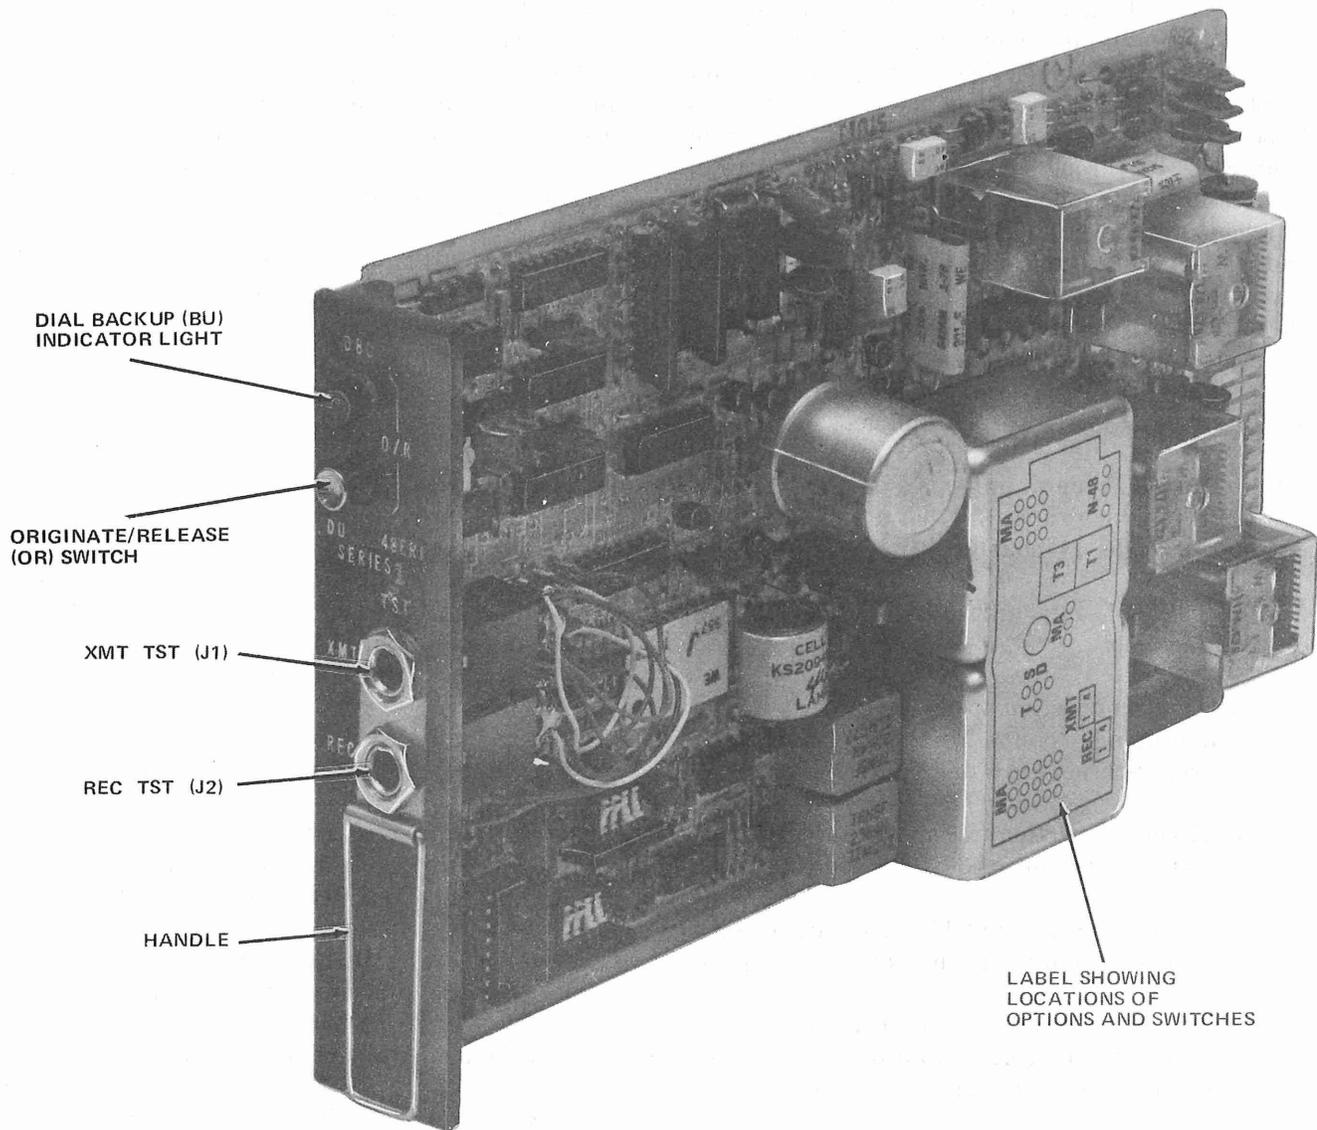

Fig. 5—48ER1 Data Unit
**2.16** The 48ER1 data unit (Fig. 5) contains the circuitry required to provide 4-wire dial backup service with manual or automatic dialing. The data unit consists of component apparatus mounted on a plug-in printed wiring board. The data unit is housed in a 46C2 or 59A1 data mounting. A handle is provided on the data unit faceplate to facilitate removal of the data unit from the data mounting. The data unit complies with all requirements of the FCC Registration Program. The registration number for the 48ER1 data unit is AS593M-67751-PC-E. The ringer equivalence number for each line is 0.5A.